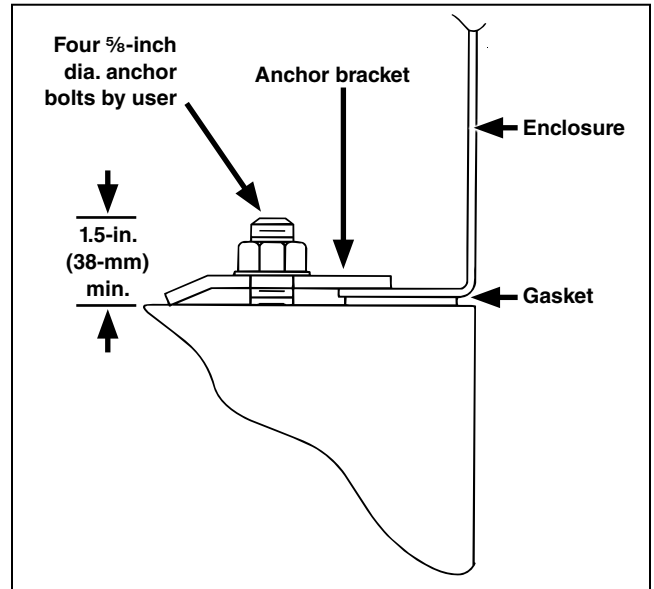

Figure 16. A proper anchor-bracket placement.
- STEP 5.** Secure the tank to the pad using the anchor brackets provided. See Figure 16 on page 15.
- STEP 3.** Secure the enclosure to the pad using the anchor brackets provided. See Figure 16.